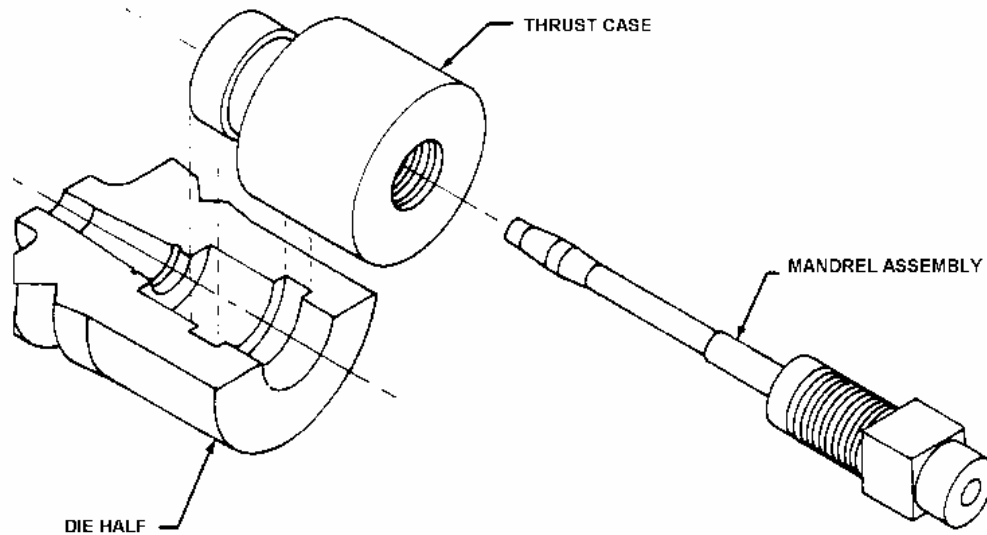

Figure 18. Expander Assembly, Size -03
34. Due to the differences in hand tools, instructions for internal mechanical swaging of Dynatube fittings for -03 size differ from instructions for all other sizes. Figure 18 shows a size -03 tube expander assembly with fewer components as compared to the tube expander assembly for all other sizes shown in Figure 10.
- i. Position thrust case as shown in Figure 18 and place in die half. Cover with mating die half, slip on collar, and tighten thumbscrew handtight.